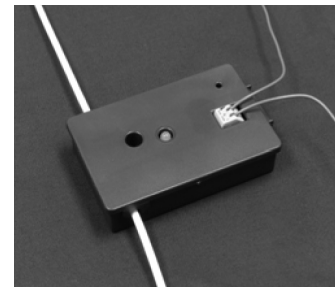

Figure 4
2. Replace the screw to hold the cover in place. (See Figure 4.)